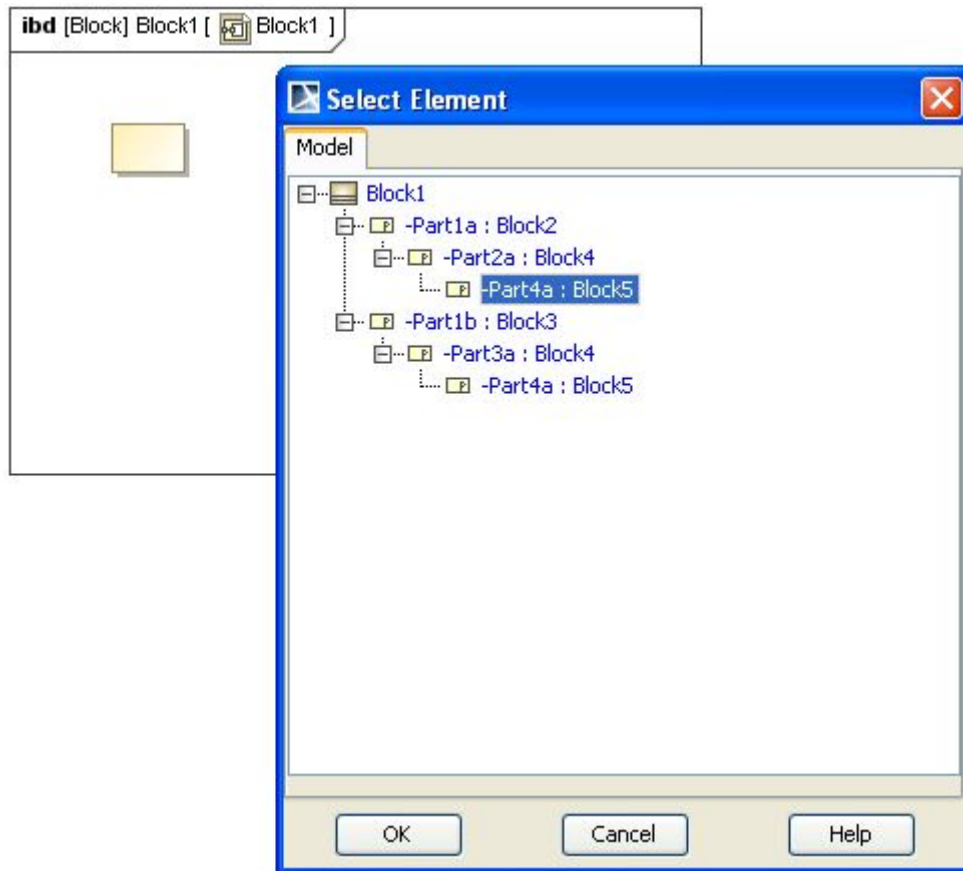

Figure 85 -- Select Element Dialog
2. Click on the diagram pane. The **Select Element** dialog will appear, showing all parts (properties) nested inside the context of the IBD, for example, Block1 (Figure 85).